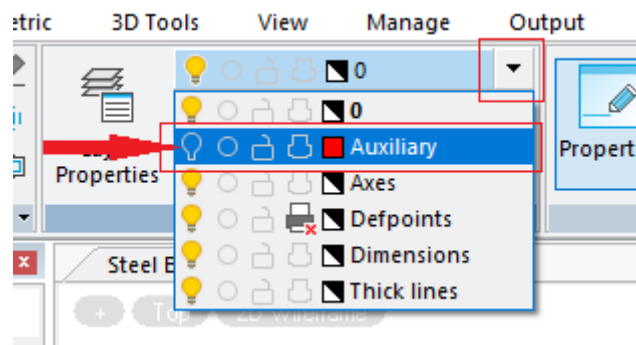

Fig. 5. Turn off the Auxiliary layer
1.6. Turn off the **Auxiliary** Layer (fig. 5):